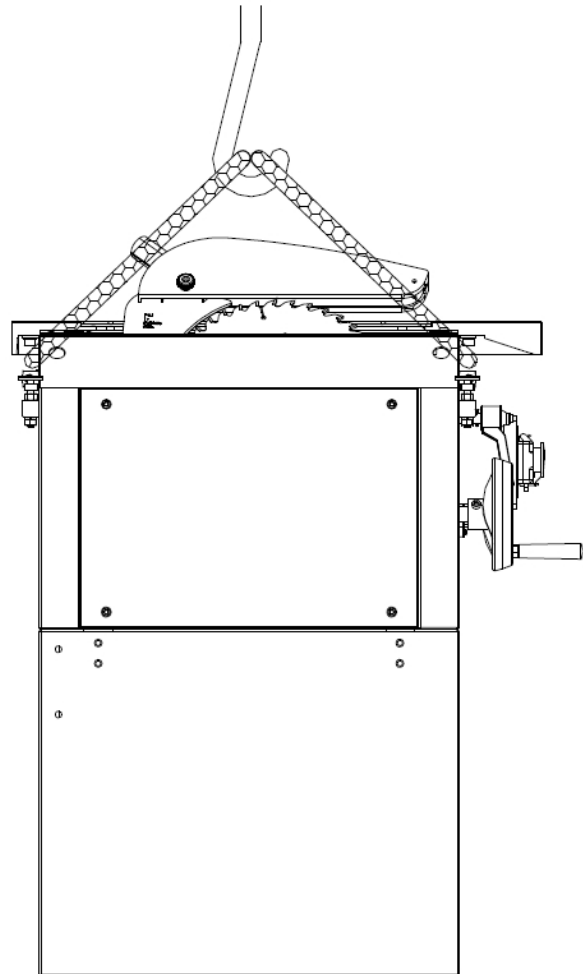

Fig. 5: Possibility to transport the machine with a crane
If you use a crane (Fig. 5) or a similar hoist, proceed as follows:
Step 1: Attach the lifting equipment of the crane to the attachment points of the circular table saw (Fig.5).